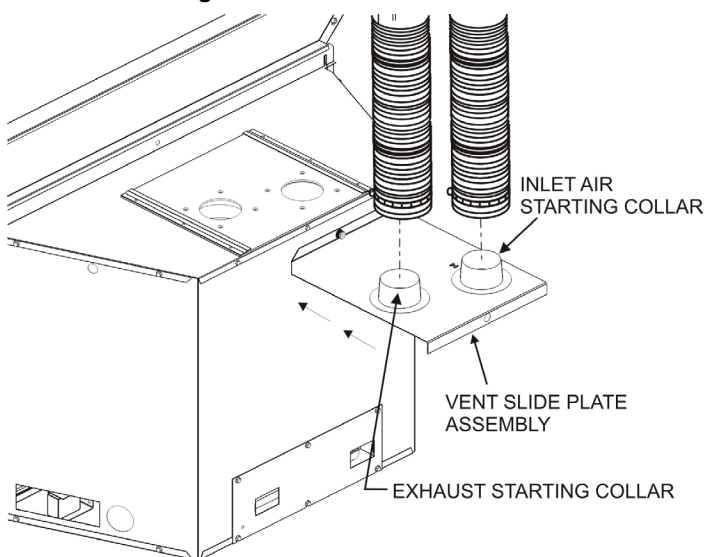

Figure 9
3. Remove the vent slide plate assembly from the top of the insert. **See Figure 9.**